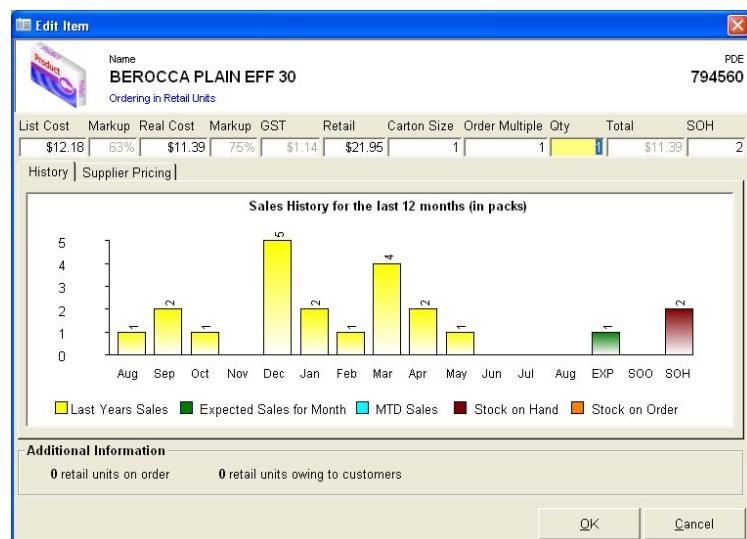

Figure 284
- Once you have selected your product, the 'Edit Item' screen will be displayed (as shown in Figure 284).